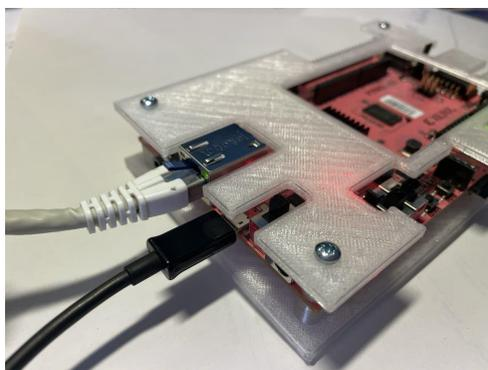

Figure 15: Ethernet and Micro-USB connection to the PYNQ-Z2
- Ensure that your board is powered on by connecting the Micro-USB to USB cable from the computer to the JTAG / UART Micro-USB socket. This connection provides power to the PYNQ board and would allow us to interact with the serial interface connected to the CPU (See Figure 15).